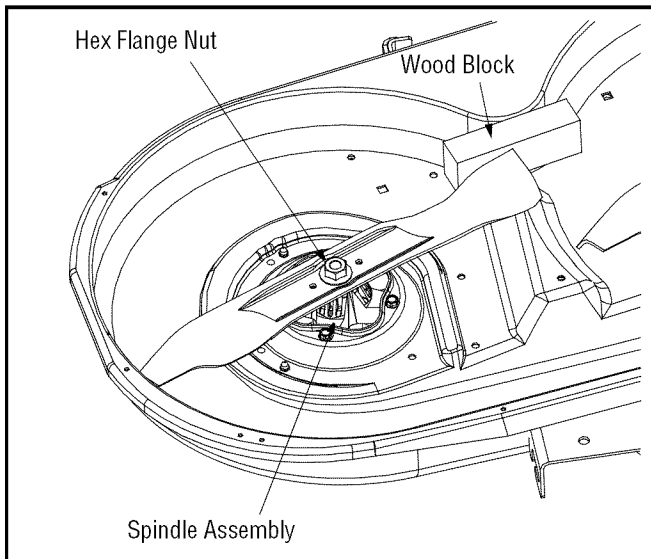

Figure 24
- Place a block of wood between the center deck housing baffle and the cutting blade to act as a stabilizer. See Figure 24.
- Use a 15/16" wrench to remove the hex flange nut that secures the blade to the spindle assembly. See Figure 24.